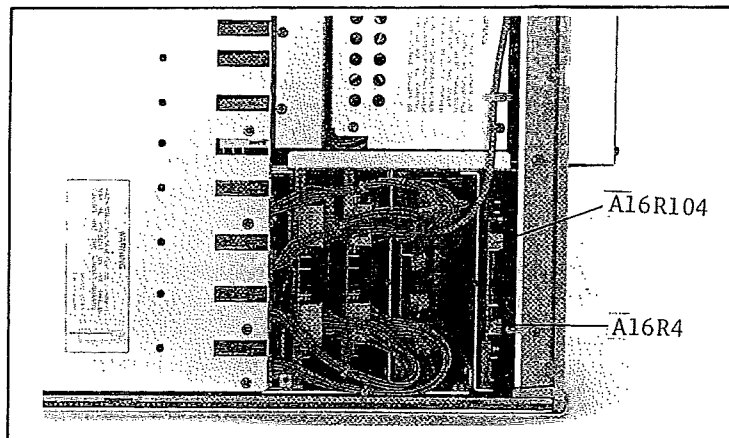

Figure 5-19. Adjustment Point Locations.
9. Adjust A16R4 (see Figure 5-19 for the location) for Vm1 gain until VM1 (value displayed on the 4145A) and Vdvm1 (reading on the 3455A) satisfy the following inequality. Then press the STOP key.
11. Adjust A16R104 (see Figure 5-19 for the location) for Vm2 gain until VM2 (value displayed on the 4145A) and Vdvm2 (reading on the 3455A) satisfy the following inequality. Then press the STOP key.